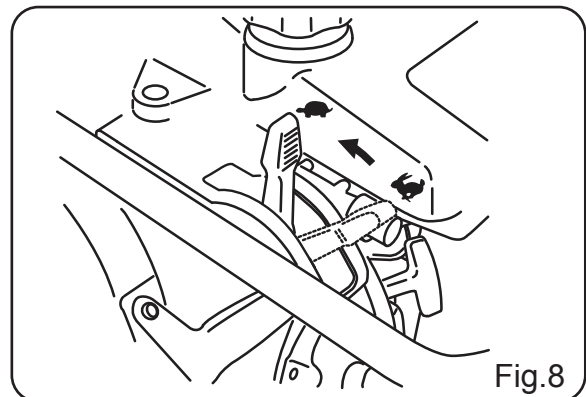

Fig.8
- 6 To halt work, quickly slide the throttle lever from the operation position(👉) to the idle position (👈). Do not slide the throttle lever slowly (Fig.8).